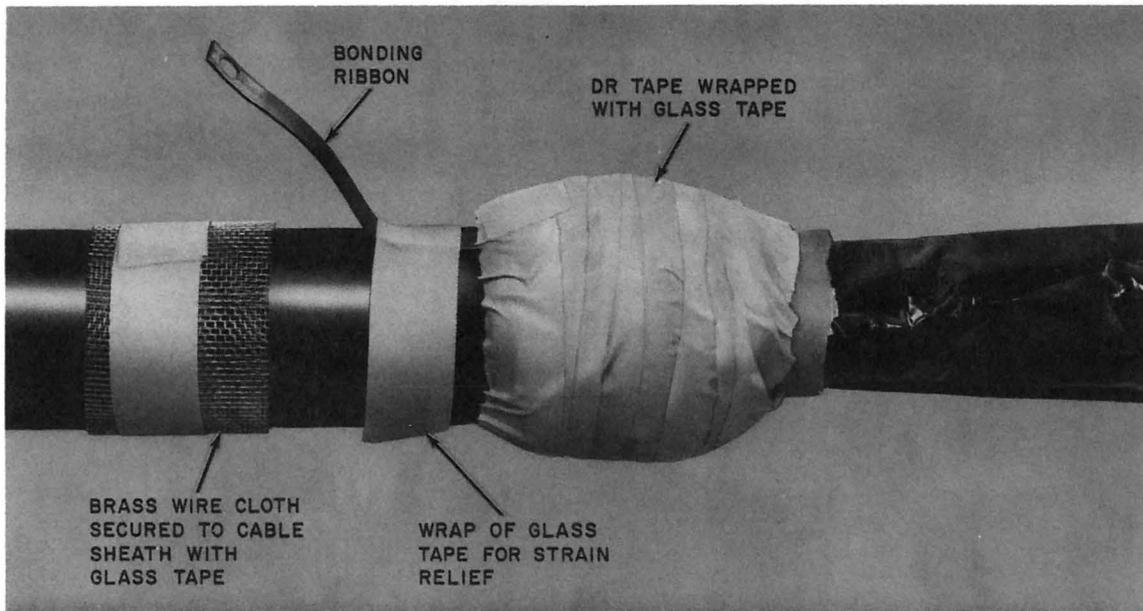

Fig. 10—Completed Wrapped Joint
5.04 Wrap the DR tape with glass tape as shown in Fig. 10. The glass tape strengthens the wrapped joint.
5.05 Place the brass wire cloth on the cable sheath and secure with a wrap of glass tape as shown in Fig. 10. The brass wire cloth is placed on the cable sheath to prevent the jaw tooth clamps on the end plate from piercing outer polyethylene sheath.
5.06 Place a wrap of glass tape around the bonding ribbon for strain relief. (Fig. 10).